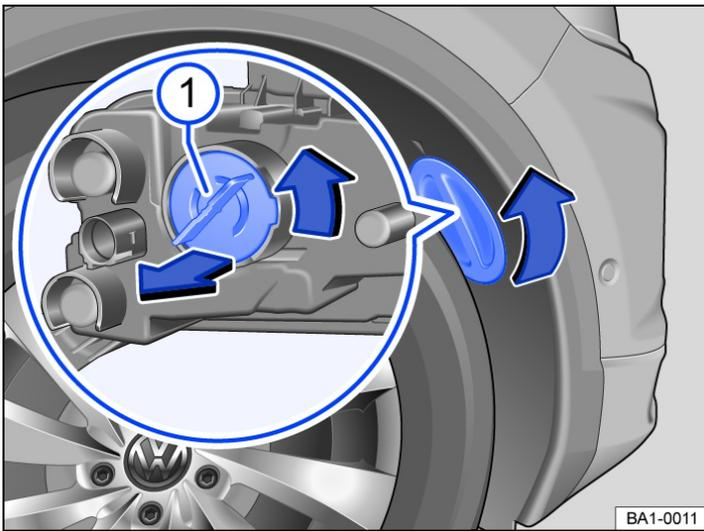

Fig. 1 In the front bumper on the right: changing a turn signal bulb.
3. Turn the cover in the wheel housing liner in the direction of the arrow and remove it → Fig. 1.
4. Turn the bulb holder → Fig. 1 ① anticlockwise as far as it will go (arrow) and pull it out to the rear together with the bulb.
6. Insert the bulb holder into the headlight and turn it clockwise as far as it will go → ②.
7. Fit the cover in the wheel housing liner → Fig. 1 and lock it in position.